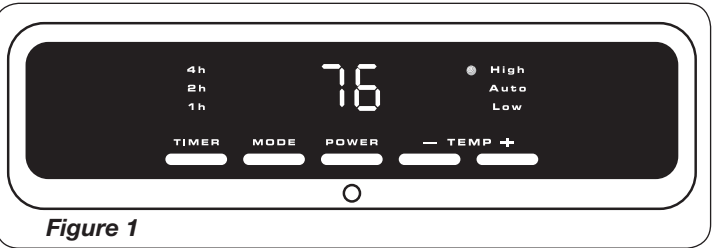

Figure 1
7. Upon turning the Heater on, the unit will be in HIGH heat (1500 Watts) and will display the current room temperature (Figure 1)